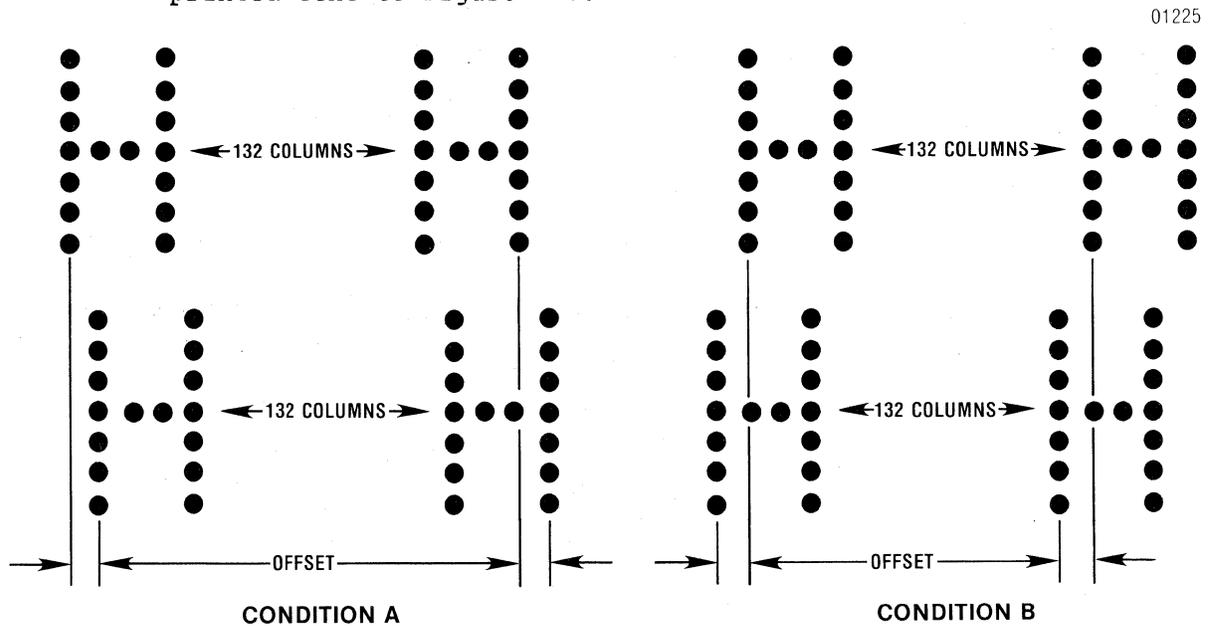

Figure 4-8. HORIZONTAL OFFSET PRINT SAMPLE
The Print Controller pcb contains a 5-position dip switch for the horizontal offset adjustment. This procedure adjusts the print position left or right so that the printed character columns are vertically aligned. To adjust the horizontal offset, refer to Figure 4-8 and Tables 4-1 and 4-2 and perform the following steps.
7. If printed text is offset as in condition A, close switch #5 (Figure 4-8) which moves the print position to the left.
9. If printed text is offset as in condition B, open switch #5 (Figure 4-8) which moves the print position to the right.